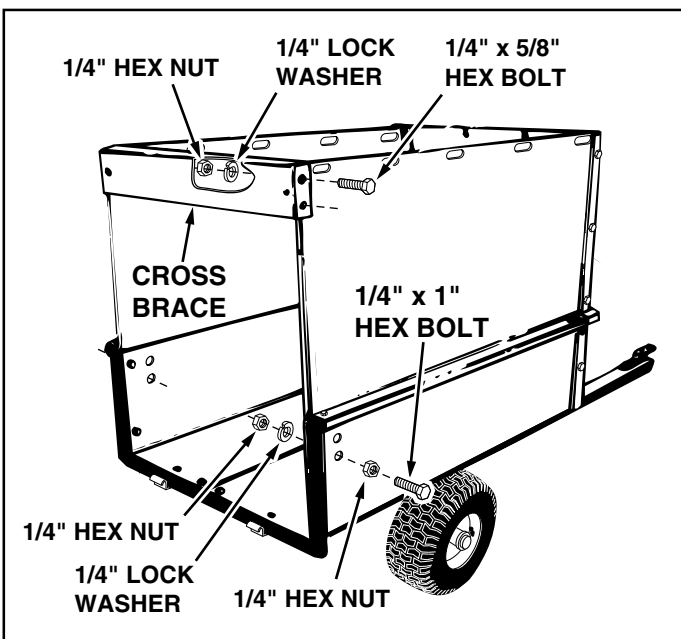

FIGURE 12
21. Screw a 1/4" hex nut approximately half an inch onto a 1/4" x 1" hex bolt. Insert the bolt into the hole shown in figure 12, in the side of the cart. Fasten the bolt to the cart using a 1/4" lock washer and 1/4" hex nut. **Tighten** so that the nut is flush with the end of the bolt. Repeat on the other side. See figure 12.
22. Assemble the cross brace to the top rear holes in the side panels using four 1/4" x 5/8" hex bolts, 1/4" lock washers and 1/4" hex nuts. See figure 12.